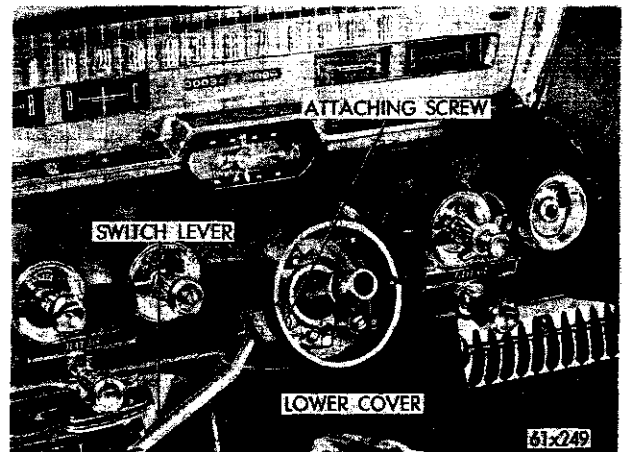
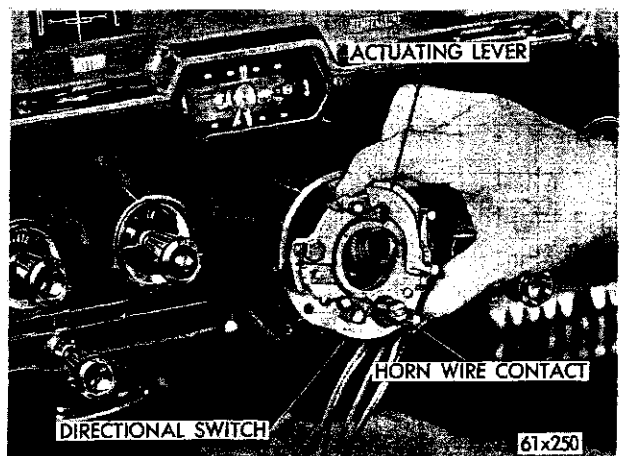

Fig. 22—Directional Switch and Lever—
Fig. 23—Removing the Directional Switch
(12) Remove the directional switch lever (Fig. 22).
(13) Remove the steering column lower cover.
(14) Remove the two screws and disconnect the switch wires at the connection and remove the directional switch and wires (Fig. 23).